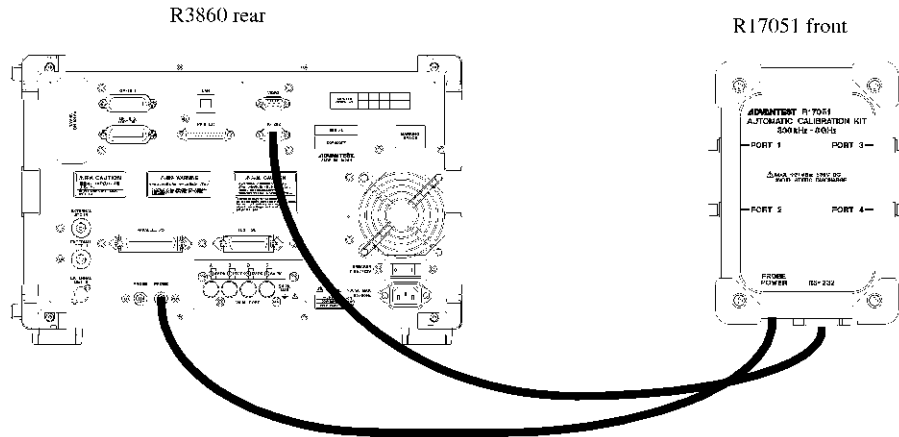

Figure 6-1 Connecting the Control Cable
1. Connect the RF component analyzer to the R17051 by using the control cable. There are two Probe POWER connectors on the component analyzer. Either of them can be selected (see Figure 6-1).